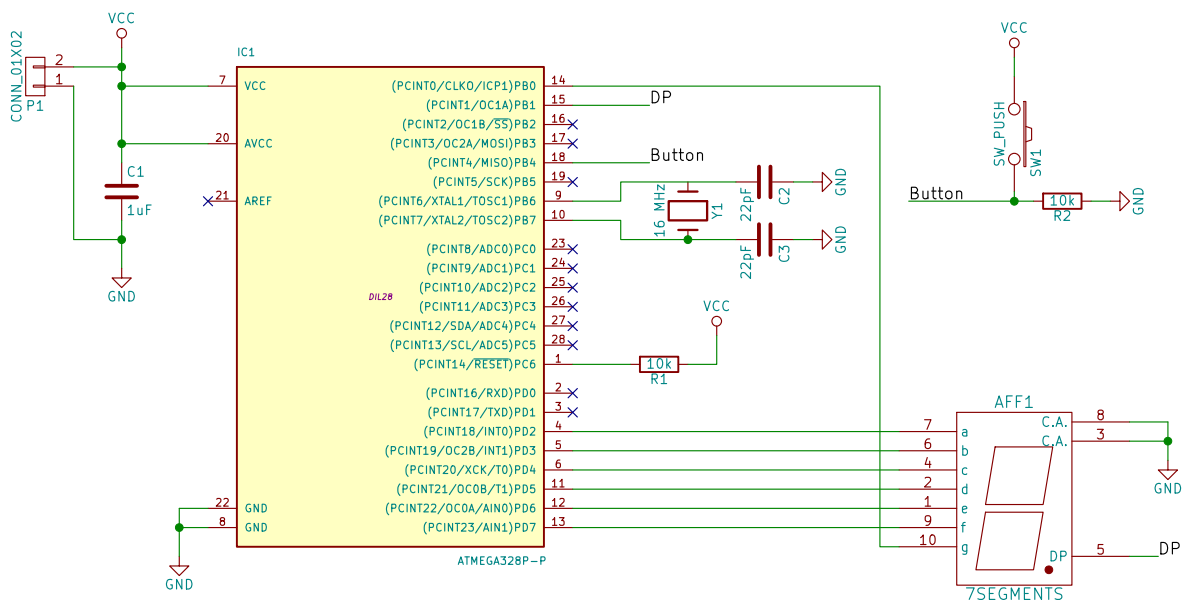

Figure 7: Completed schematic drawing of Example 1 circuit.
- f) Repeat steps a–e for the connection between ATmega328P’s *PB4* pin and the push button. Refer to the final schematic (Fig. 7) for how it looks.
11. The final schematic should look like that in Fig. 7.